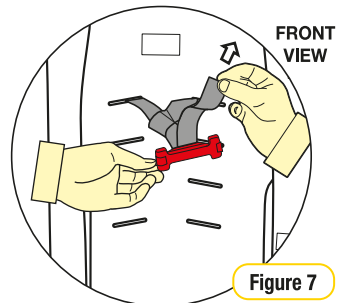

Figure 7
Step 7: Adjusting the strap length to position the sash guide near your child's shoulder to ensure the cars seat belt sash is in the correct position (refer Figure 7) (See using Lap-Sash seat belt pages 29-31).
Step 7: Pass the shoulder belt through the belt sash guide (refer Figure 6) which is fastened to the restraint by a webbing strap. Adjust the position so that the shoulder belt lies comfortably over the child's shoulder (Refer Figure 7). Adjust to the required length.